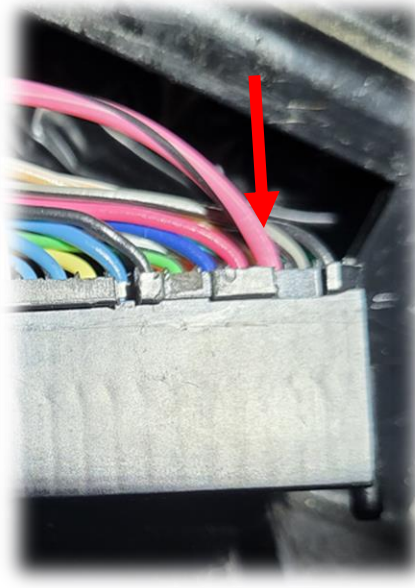

Figure 18
17. Find the pink/black wire on the "OUT" labelled harness. The raw terminal end of the pink/black wire will be inserted into the main cluster connector where the pink/black wire was removed. Location which is three from the right on top row, A3. Figure 18.